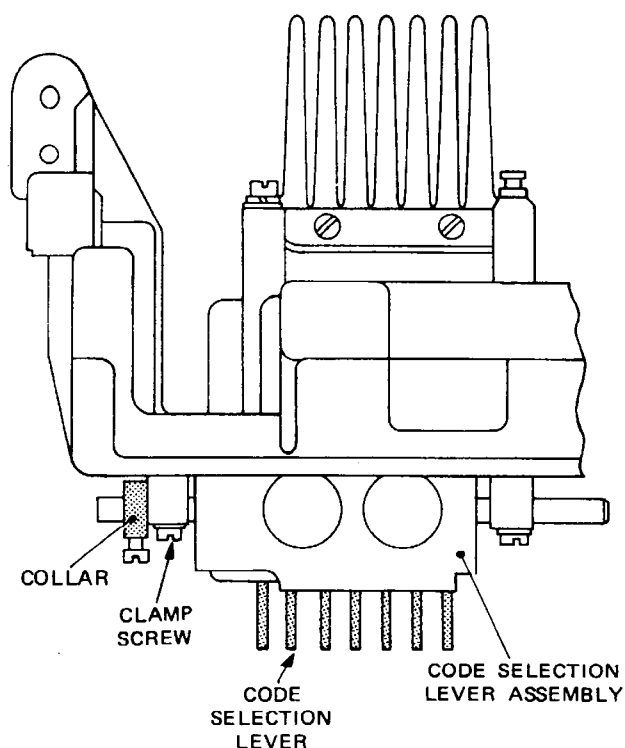

Fig. 4.16 SELECTION LEVER ASSEMBLY
- 18.1 Check that the code selection levers are central in the sequential lever rack, Fig. 4.16, and are still free when the unit is fitted to the machine and engaged with the keyboard.